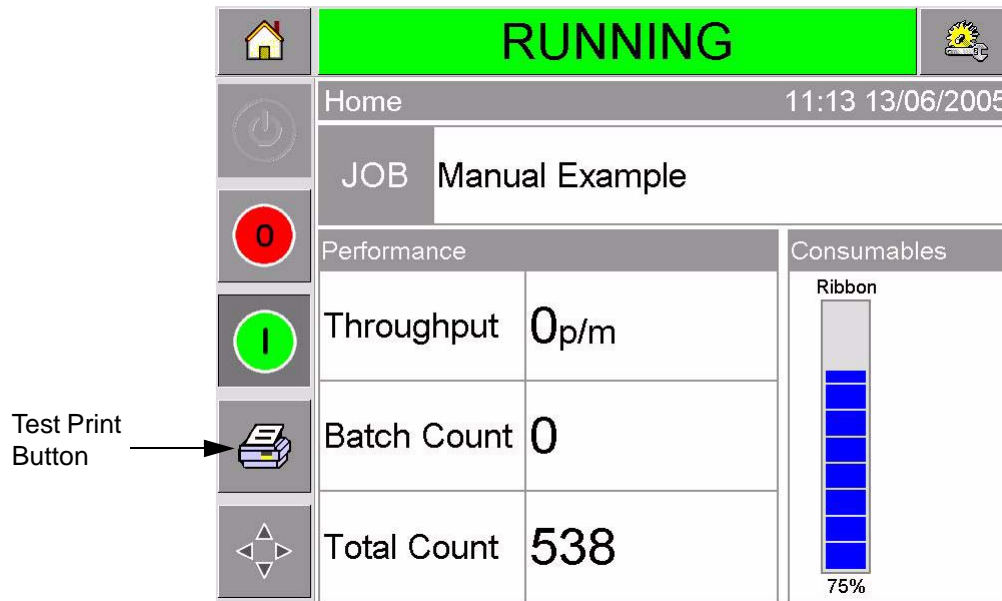

Figure 3-14: Test Print Button
A test image can be printed before running the printer to check if the printed image is of acceptable quality. The Test Print button (Figure 3-14), will appear greyed out if this feature has been disabled by the installation engineer. Also, the printer must be set to the RUNNING state for the Test Print button to be available.
- 3 Touch the Test Print button in the CLARiTY's control frame (Figure 3-14). The printer performs the test print.